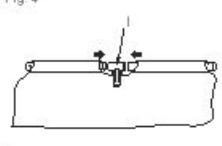

Fig. 5
8. At the corners, insert the top rails into the Corner Seats (J). Insert the Connection Pins (K) into the pre-drilled holes locking the top rails into position (See Fig. 5).
9. Insert the Vertical Pool Legs (F) into the bottom of the Corner Seats (J). (See Fig. 5).